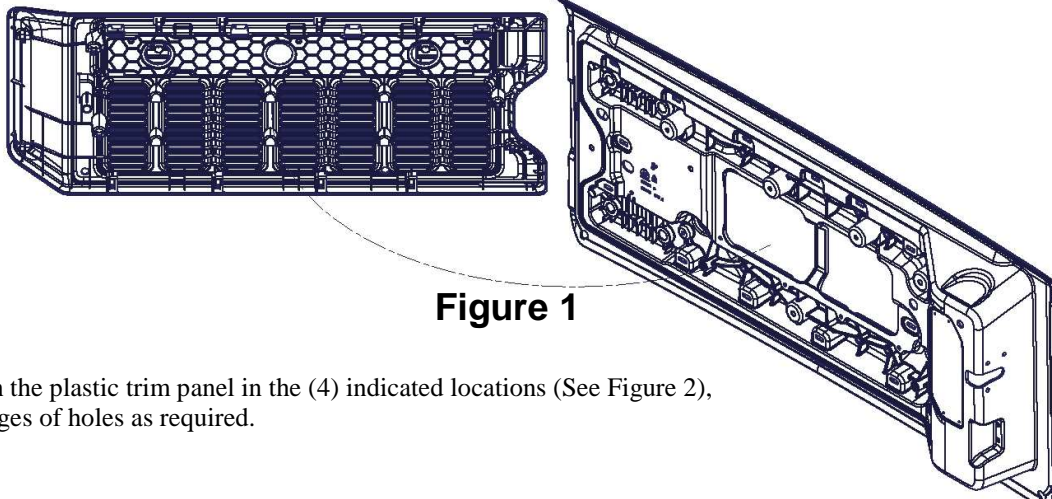

Figure 1
- Open the tailgate and remove the trim panel from the inner surface. See Figure 1